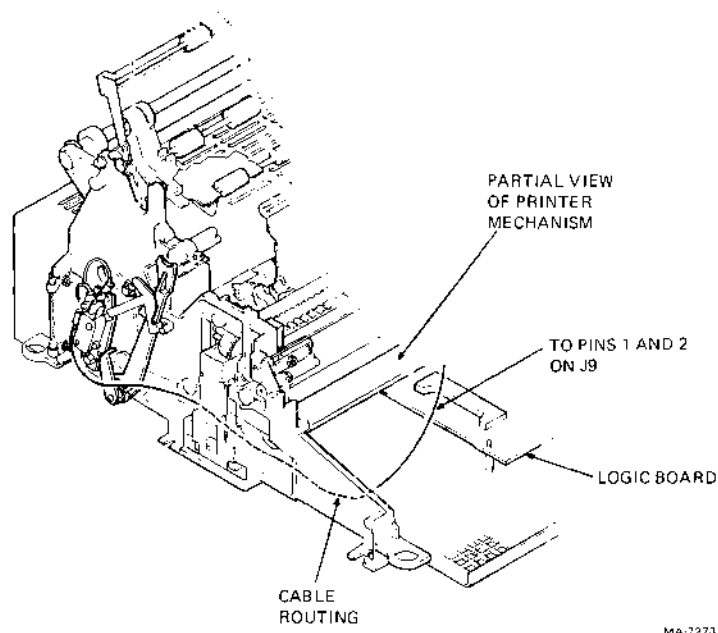

Figure 3-19 Paper Out Switch Cable Routing
16. Connect the paper out cables to the microswitch and route the cables under the printer mechanism (Figure 3-19). Connect the cable terminals to pins 1 and 2 of J9 on the logic board (Figure 3-5).